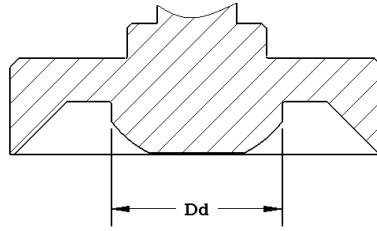

Figure 30: Critical Disk Dimension
4. Referring to Figure 30, measure the diameter  $D_d$ . This diameter must be within the range of values listed in Table 4.